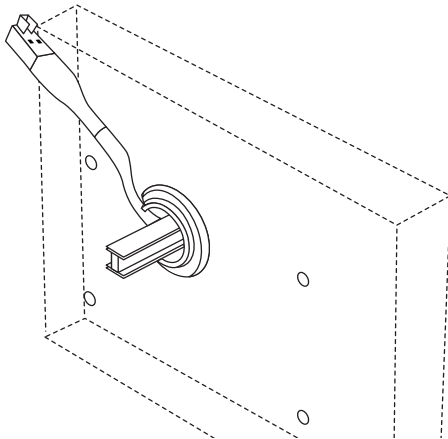

Figure 10
- 8). Slide down to the spindle hole to protect the cable from rubbing on the edge of the hole, see *Figure 10*.
! Route the cable on the notch of the cable clamp as shown, see *Figure 10*.